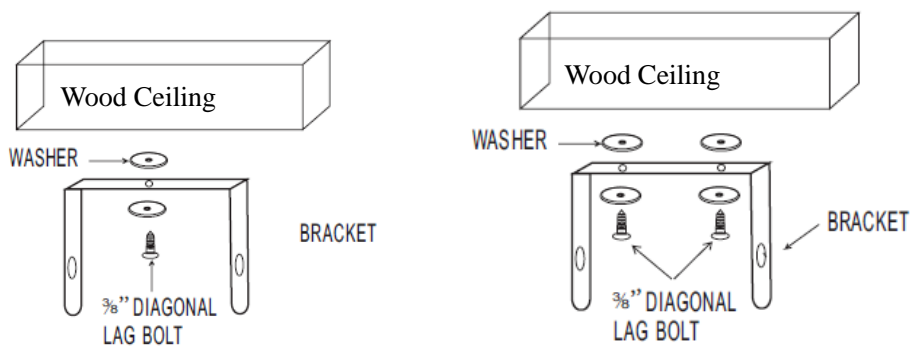

Figure 4a-single-Screw Mounting Figure 4b-Double-Screw Mounting
Refer to Figures 4a and 4b.
NOTE: If you want to swivel the heater either to the right or left adding a washer to both sides of the bracket is recommended. A longer lag bolt may be required to properly secure the unit. See Figure 4a.
1. To turn the unit when it has been installed with a single lag bolt (as shown in figure 4a), simply turn the entire heater as needed. The unit cannot be turned horizontally if it has been installed with 2 lag bolts.